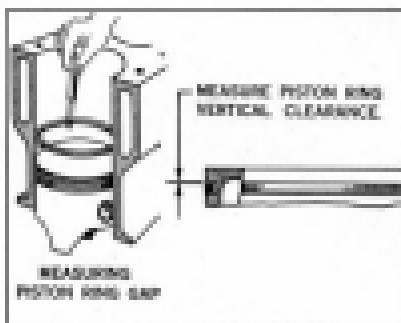

Fig. 129. Fitting Piston Rings.
3. Measure vertical clearance as shown in Fig. 129.